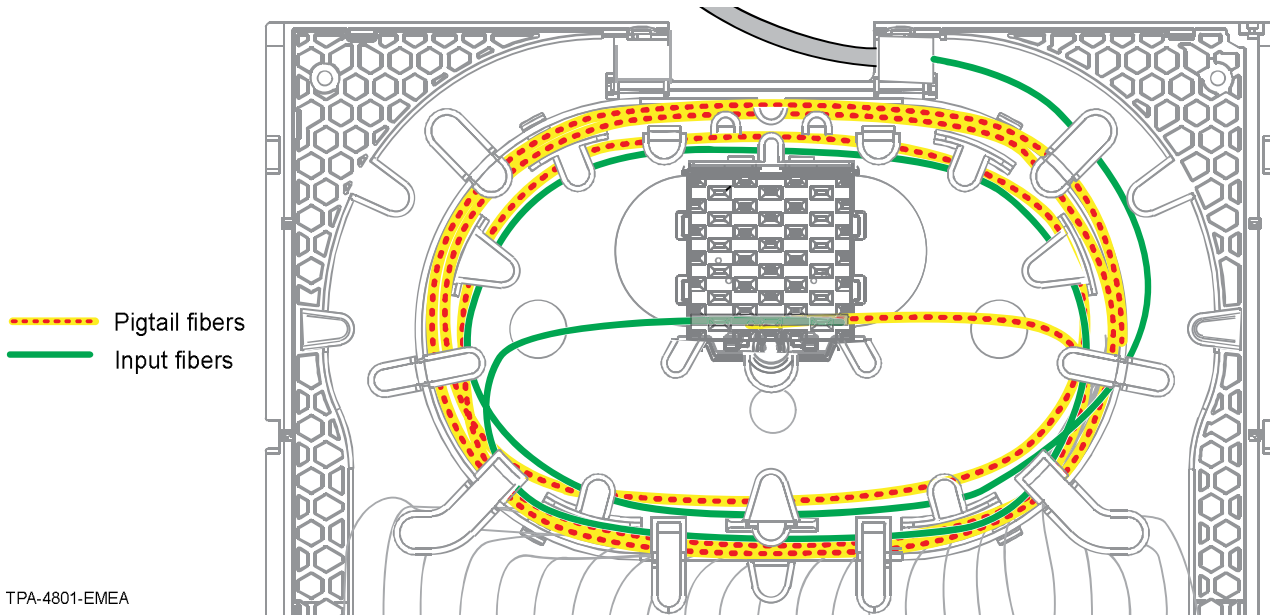

Figure 40
Step 9: Replace fibers in the cassette as previously routed before splicing (Figure 40).